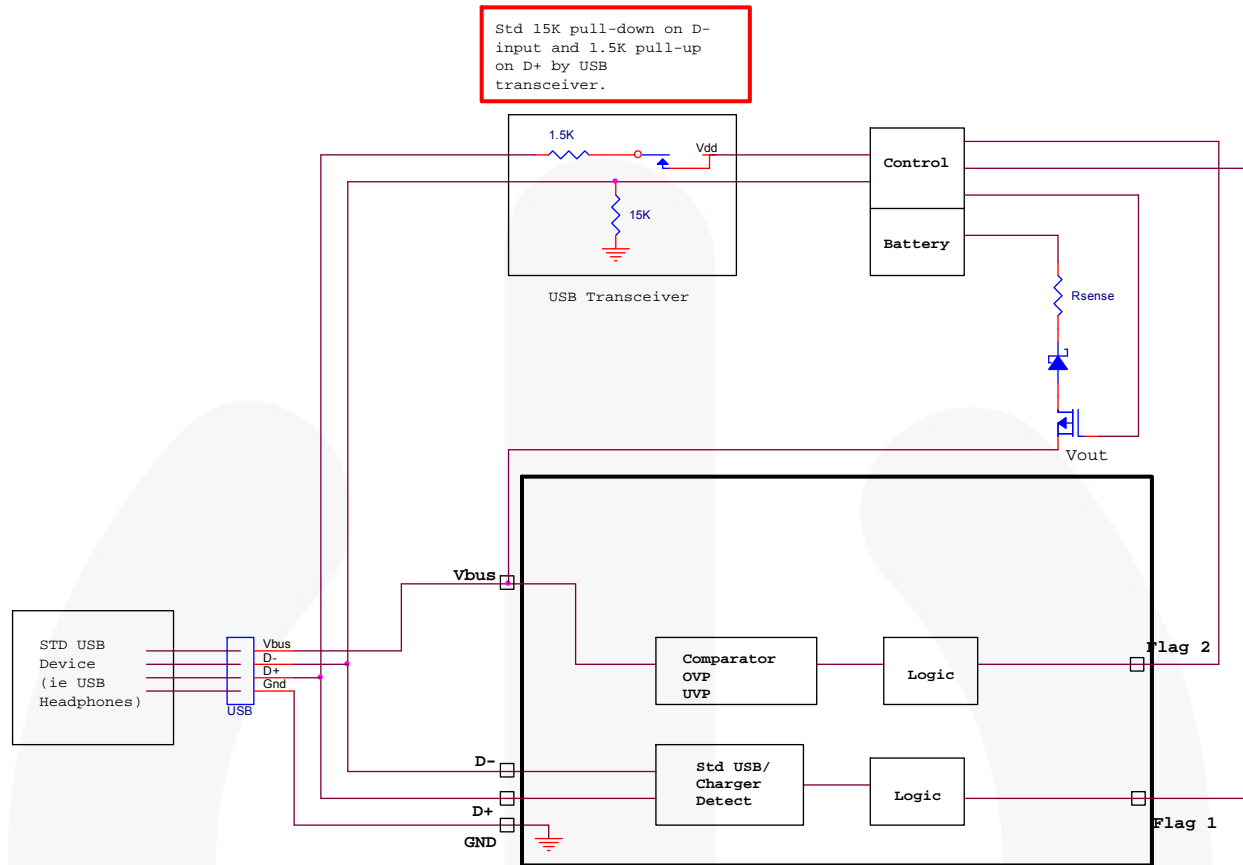

Figure 7. Typical Application System with USB Transceiver
1. See Figure 7.
### With USB Transceiver (Figure 7)